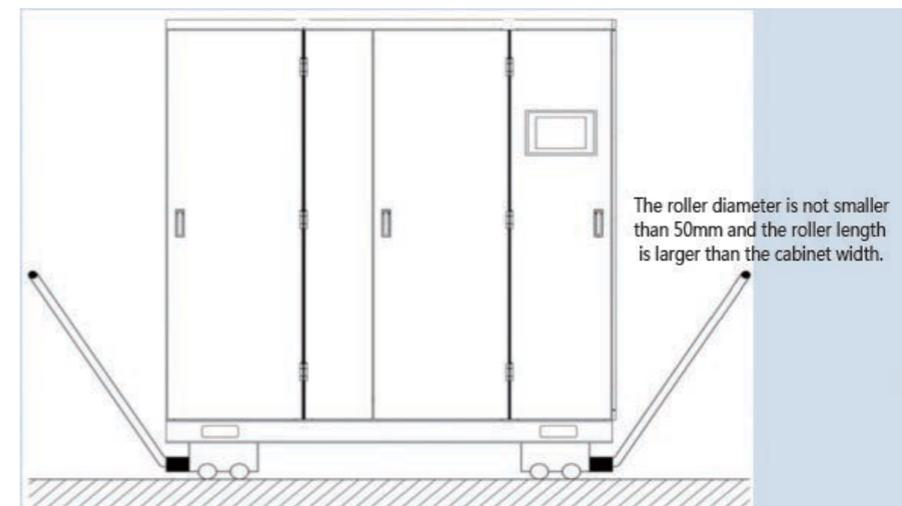

Figure 6.6 Roller Trolley Handling Diagram
3) Roller trolley handling: The roller trolley must be placed below the U-channel steel of the base, as shown in Figure 6.6.